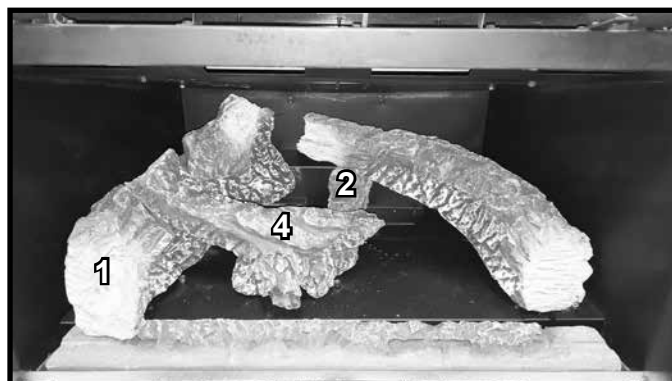

Figure 6. Log #4 Installed
**LOG #4:** The Y-end of Log #4 should sit on the flat spot of Log #2, the other end will sit on the flat spot of Log #1. See Figure 6